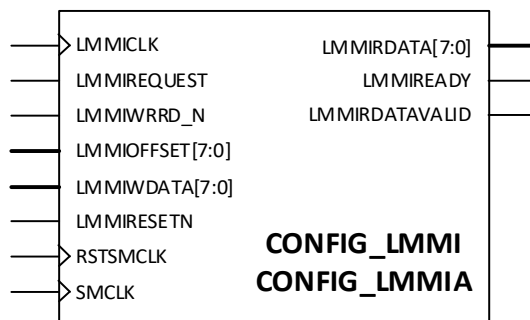

Figure D. 1. CONFIG_LMMI(A) Primitive Pin Diagram
The pin diagram of CONFIG_LMMI(A) primitive is shown in Figure D. 1. The description of the I/O and parameters are shown in Table D.1 and Table D.2.